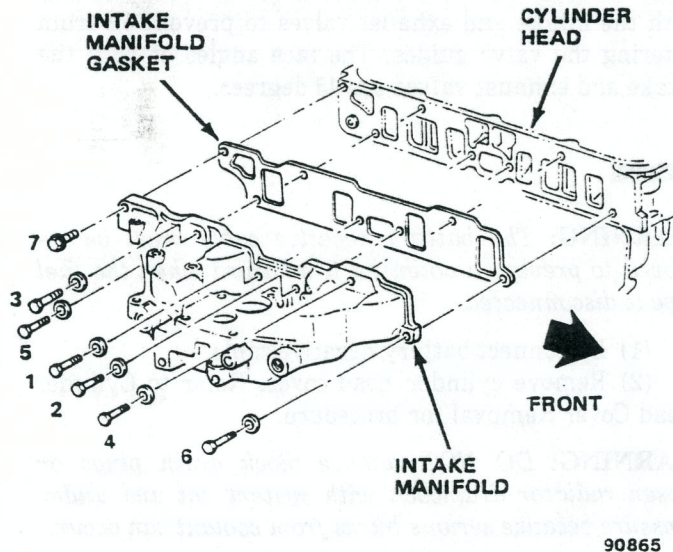

Fig. 1B-23 Intake Manifold Bolt Tightening Sequence
- (3) Drain cooling system.
- (4) Tag and remove vacuum hoses (ensure distributor vacuum advance hose is removed).
- (5) Disconnect fuel pipe and electrical wire connections from carburetor.
- (6) Disconnect carburetor throttle linkage. Remove carburetor and carburetor spacer.
- (7) Remove bellcrank and throttle linkage brackets and move to one side for clearance.
- (8) Remove heater hose at intake manifold.
- (9) Remove alternator. Note position of spacers for installation.
- (10) Remove manifold-to-cylinder head bolts and remove manifold.
- (11) Position replacement gasket and install replacement manifold on cylinder head. Start all bolts.
- (12) Tighten manifold-to-cylinder head bolts using sequence illustrated in figure 1B-23. Tighten all bolts with 37 foot-pounds (50 N•m) torque.